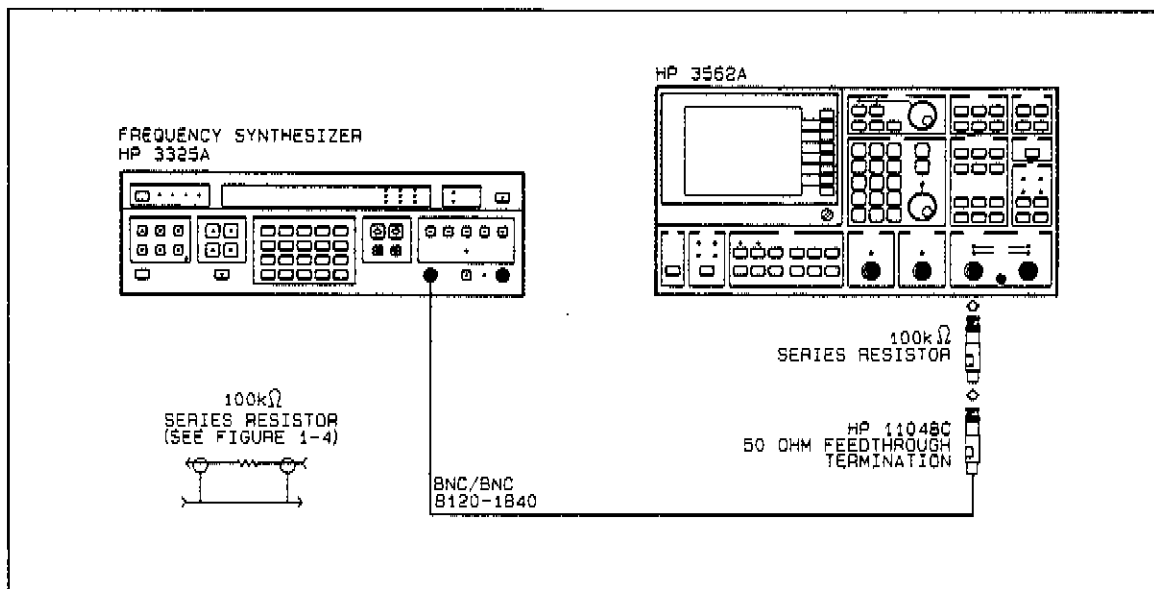

Figure 2-20 Input Capacitance Test Setup
- F. Connect the test instruments as shown in figure 2-20.